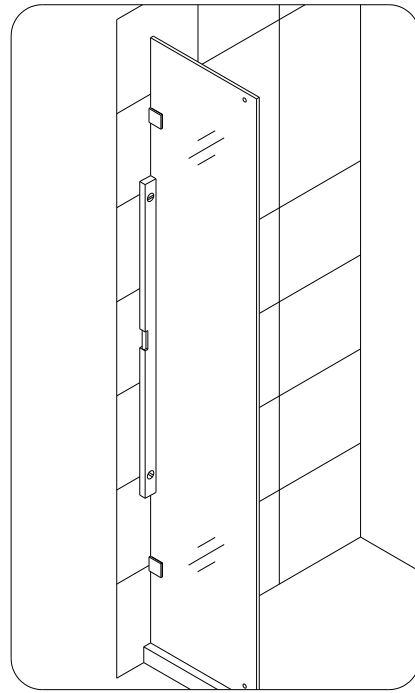

Fig. 2
2. Place one **Stationary glass panel** with attached **Brackets** to the designated position on the threshold or tray, make sure it's leveled and plumb and mark the position of the **Brackets** on the wall. See Fig. 2 for details.